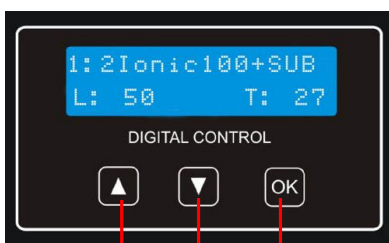
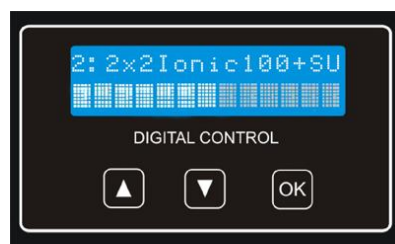

Fig 2
Fig 3
To change the preset configuration (see Fig 2) just press the up button (1) and down button (2) until you see the title and preset number required and once found press OK (3) until the progress bar finishes (Fig 3). The display will indicate "Loading DSP" (Fig 4)